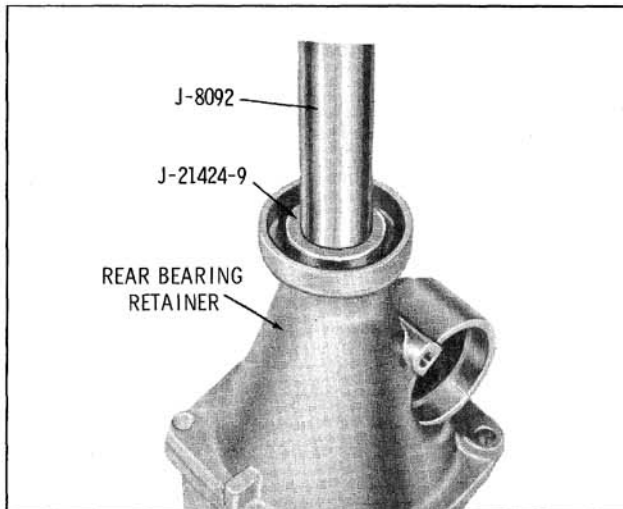

Fig. 6-521 Installing Rear Bearing Retainer Bushing
2. Using Drive Handle J-8092 and Installer J-21424-9, install rear bearing retainer bushing. (Fig. 6-521)